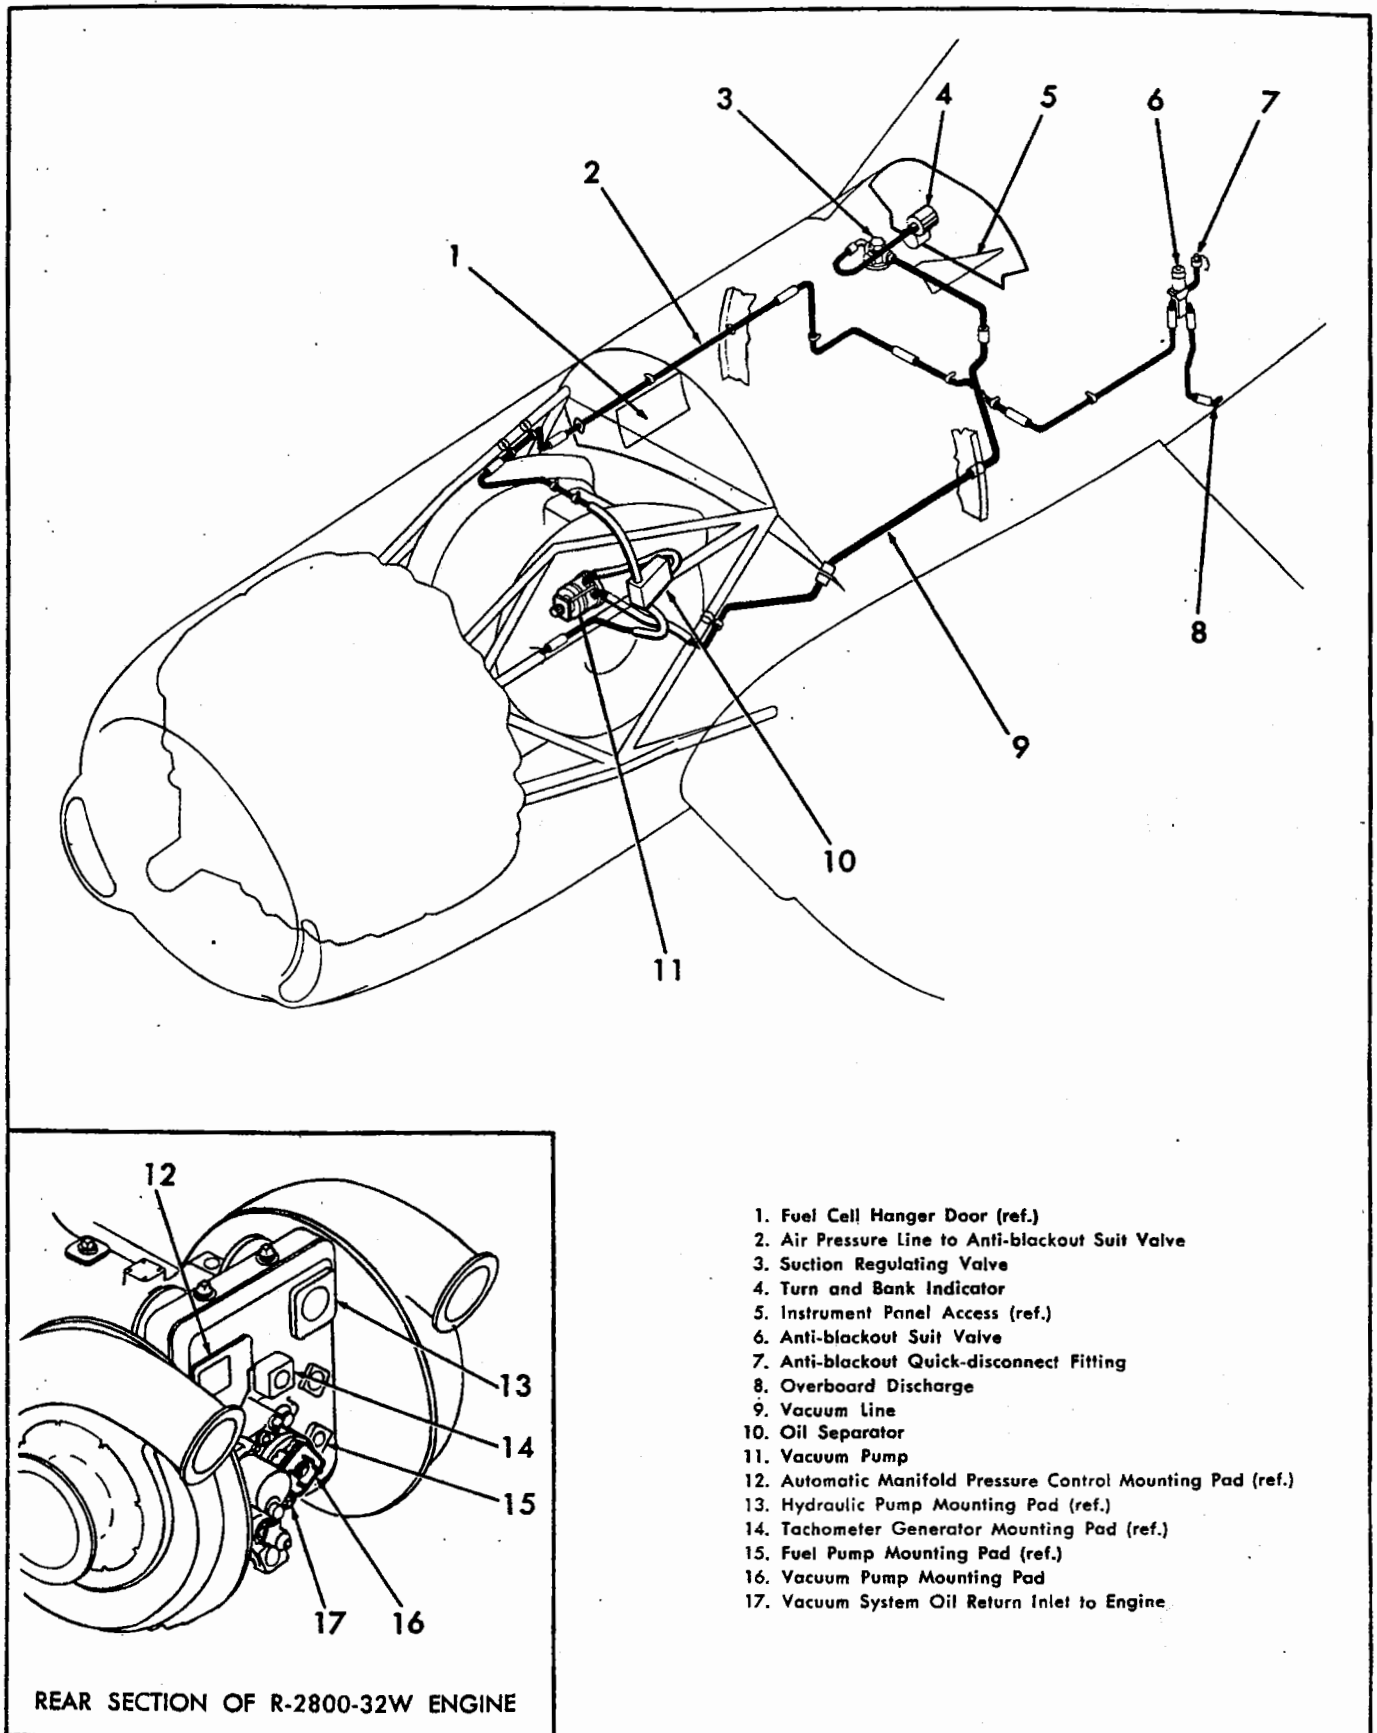

Figure 4-128. Vacuum System.
4-1322. DESCRIPTION. (See figure 4-128.) Vacuum for the vacuum-driven turn and bank indicator is supplied by an engine drive vacuum pump, Navy Type B-2B, with a suction regulating valve (R88-V-395) installed in the suction line. The exhaust line from the vacuum pump passes through the oil separator which returns condensed oil to the engine. A line from the separator carries exhaust air pressure, free of oil, to the anti-blackout suit valve; see paragraphs 4-1350 through 4-1357. Tubing from vacuum pump to turn and bank indicator is color-coded white-light green; tubing for anti-blackout suit is coded light green-light blue.
4-1324. DESCRIPTION. (See figure 4-128.) The vacuum pump Navy Type B-2B is driven through an accessory drive from the engine. It is a rotary, four-vane, positive displacement type pump. The pump is lubricated by engine oil supplied under pressure through an internal oil channel in the pump mounting pad. The pump is coupled to the engine by means of a spring coupling with a safety shear section to protect the engine-driven gear and pump in case of seizure. When installed, this pump rotates in a clockwise direction when viewed looking forward.
4-1325. LOCATION AND ACCESS. (See figure 4-128.) The vacuum pump is located at the center of the aft face of the engine accessory drive case. It is accessible by working through the intercooler flap. Remove quick-disconnect pin at intercooler flap actuating cylinder and drop flap. The vacuum pump is mounted on a mounting plate with four studs.
b. Make sure that vacuum line is connected to vacuum port and that exhaust line is connected to exhaust port of pump. See figure 4-128.
4-1330. DESCRIPTION. (See figure 4-128.) The oil separator AN6121-2 is a small rectangular container with an inlet on the end and a baffle plate within. The baffle plate traps the oil in the incoming air from the vacuum pump and permits it to drain downward into a tube leading to the engine sump. An outlet at the top of the separator conducts the exhaust air to tubing leading to the anti-blackout suit valve in the cockpit. The separator is located on the left hand side of the engine accessory compartment.
4-1335. DESCRIPTION. (See figure 4-128.) Suction for the turn and bank indicator comes from the suction side of the vacuum pump through a section of flexible hose, through tubing secured by a clamp to the engine mount. Aluminum tubing runs aft to bulkhead 100. A
4-1339. DESCRIPTION. (See figure 4-128.) The suction regulating valve, R88-V-395, is used to regulate the vacuum applied to the turn and bank indicator to 2.0 (plus or minus 0.2) inches of mercury, regardless of changes in altitude, air temperature and/or vacuum pump speed.
4-1351. **DESCRIPTION.** (See figure 4-128.) The anti-blackout suit system is installed for the purpose of inflating the pilot's "cover-all" type anti-blackout suit. Air pressure inflates the bladders in the suit around the calves, thighs and abdomen of the pilot. The expanding bladders pull the suit tightly around the veins, causing the circulation in the lower part of the body to slow down and keep the flow of blood from the head regular.
4-1353. **DESCRIPTION.** (See figure 4-128.) A line from the exhaust side of the engine-driven vacuum pump runs to an oil-air separator in the engine accessory compartment. From the separator, a line runs to the right hand side of the engine mount, then aft through the firewall between the fuel cell and the skin on the right hand side, into the fuselage beneath the cockpit floor. It crosses the fuselage under the cockpit floor beneath
4-1355. **REMOVING VALVE AND QUICK-DISCONNECT.** (See figure 4-128.)
4-1356. **REMOVING TUBING.** (See figure 4-128.)